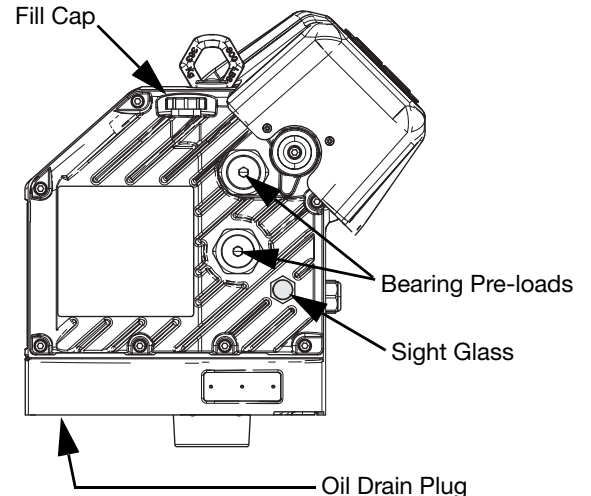

FIG. 13: Sight Glass and Oil Fill Cap
3. Remove the oil drain plug. See **Figure 13** for the location of the drain plug. Allow all oil to drain from the driver.
Refer to **FIG. 13** below. Check the oil level in the sight glass on a regular basis. The oil level should be near the halfway point of the sight glass when the driver is not running. If the oil is low, open the fill cap and add Graco Part No. 16W645 ISO 220 silicone-free synthetic EP gear oil.